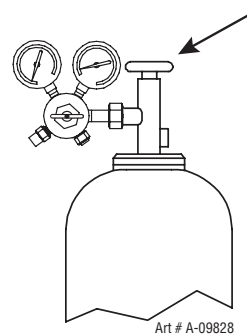

Figure 3-6: Open Cylinder Valve
9. Slowly and carefully open the cylinder valve (Figure 3-6) until the maximum pressure shows on the high pressure gauge.